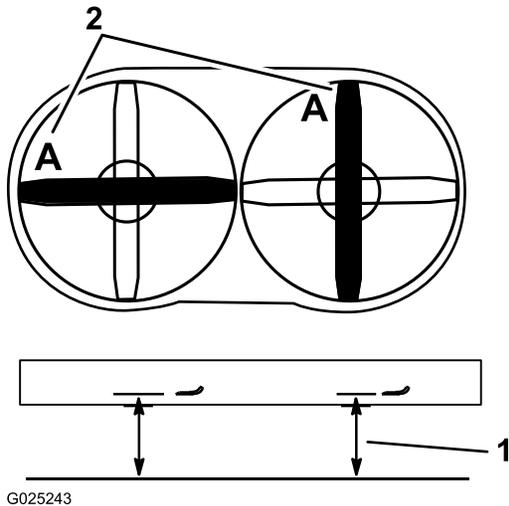

Figure 71
- Rotate 1 blade as shown in Figure 71.
- Measure from a level surface to the cutting edge at position A of the blade (Figure 71). Note this dimension.